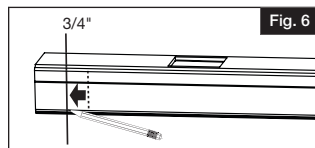

Fig. 6
- For the bottom rail only, add $\frac{3}{4}$ " (toward the rail end or post) to the marks made on the panel in step 3 (Fig. 6) and cut the panel at these marks.
- a. For the bottom rail only, add $\frac{3}{4}$ " (toward the rail end or post (Fig. 6) to the marks made on the panel in step 3 (Fig. 5) and cut the panel at these marks.